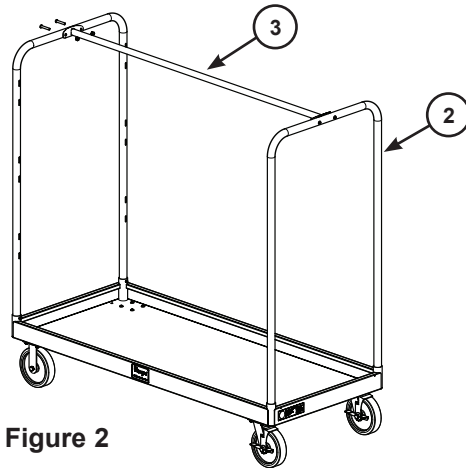

Figure 2
- Attach other end of the hanger bar (2) (Figure 2) as defined in step 6.